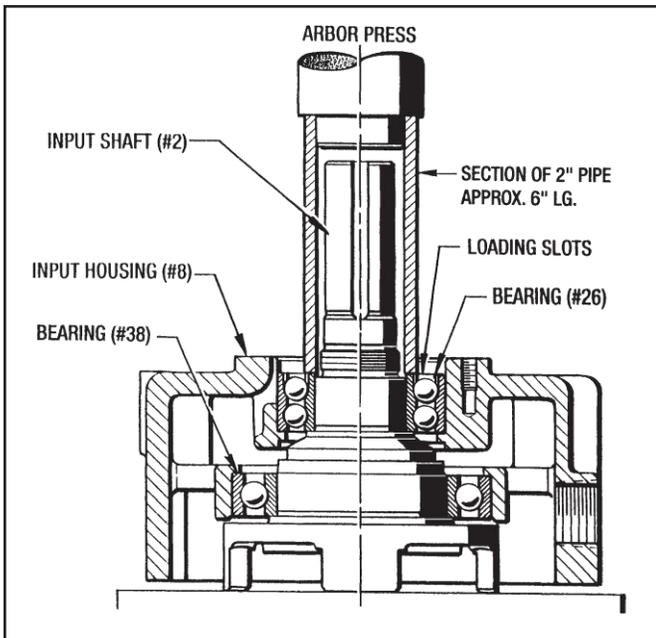

Figure 9.1 - Installing Male Input Shaft
3. Set the Input Housing into an arbor press as shown in Figure 9.1. Place the Bearing (#26) onto the Input Shaft with the bearing loading slots up. With an appropriate sized tube, as shown, press on the inner race of the bearing until it bottoms out. **(Do not press on the bearing cage of the outer race.)**